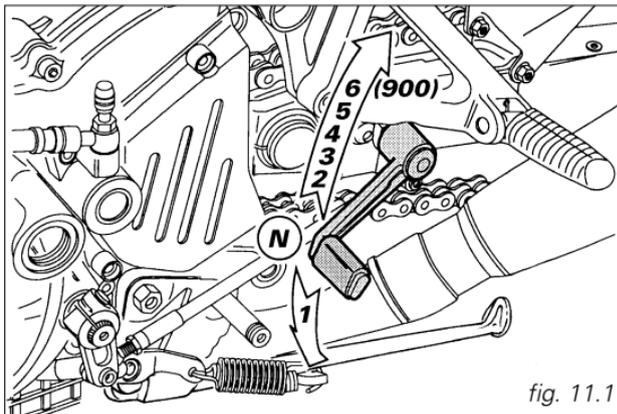

fig. 11.1
**Gear change pedal** (fig. 11.1)